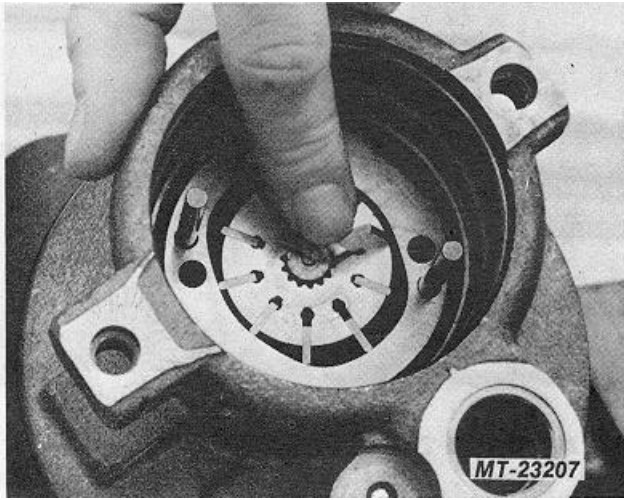

Fig. 28 Install Vanes
6. Slide rotor onto drive, shaft splines, then assemble ten vanes into rotor slots with rounded edges of vane out. Rounded edges must ride against ring cam (Fig. 28).